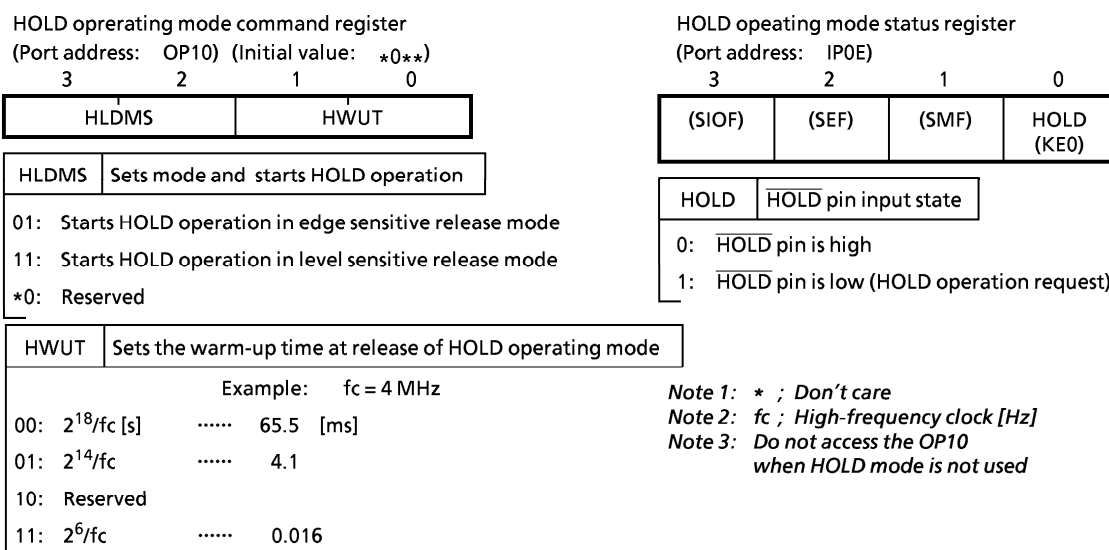

Figure 2-21. HOLD operating mode command register/status register
- ① The high-freq. oscillator starts.
- ② Warm-up is performed to acquire the time for stabilizing oscillation. During the warm-up, the internal operations are all stopped. One of three warm-up times can be selected by program depending on the characteristics of the oscillator used.
- ③ When the warm-up time has passed, an ordinary operation restarts from the instruction next to instruction which starts the HOLD operation. At this time, the interval timer starts from the reset state "0".
- \* The warm-up time is obtained by dividing the basic clock by the interval timer, so that, if the frequency at clearing the HOLD operation is unstable, the warm-up time shown in Figure 2-21 includes an error. Therefore, the warm-up time must be handled as an approximate value.